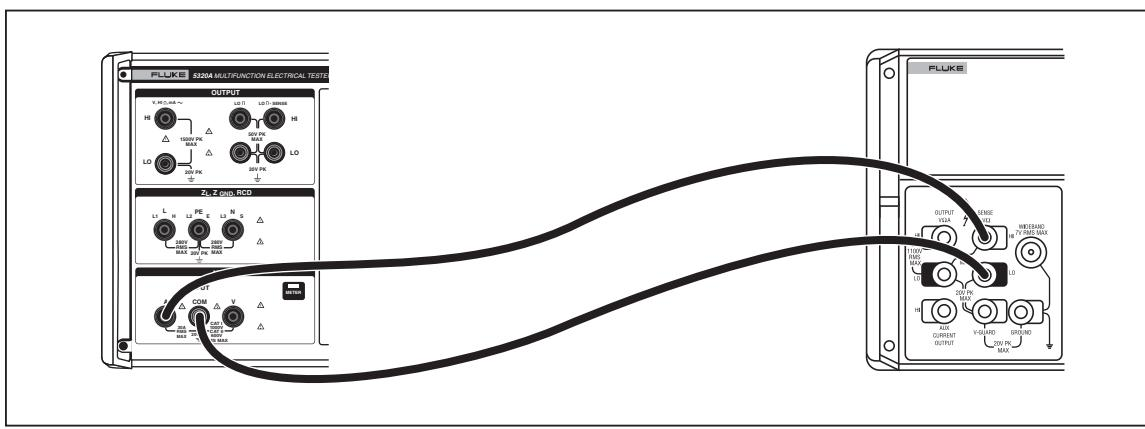

Figure 3-17. AC Multimeter Current Calibration Connections
11. Connect the multifunction calibrator to the Calibrator's output terminals as shown in Figure 3-17.